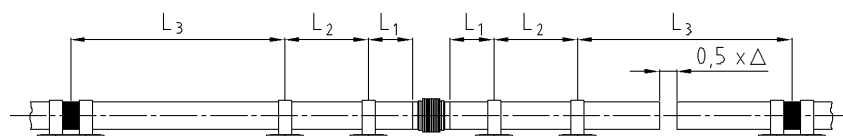

Fig. 2
- Align the pipeline, distance between pipe guides according to fig. 2, table 2 and diagram 2